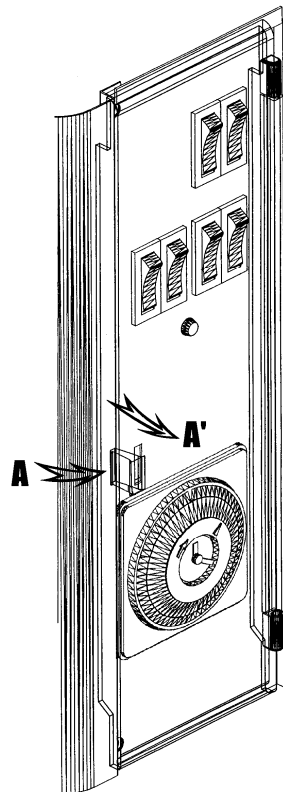

Figure 10
4. To access switches and timer, open the switch panel cover by pushing on the side (arrow **A**) and pulling (arrow **A'**) (**Fig. 10**).